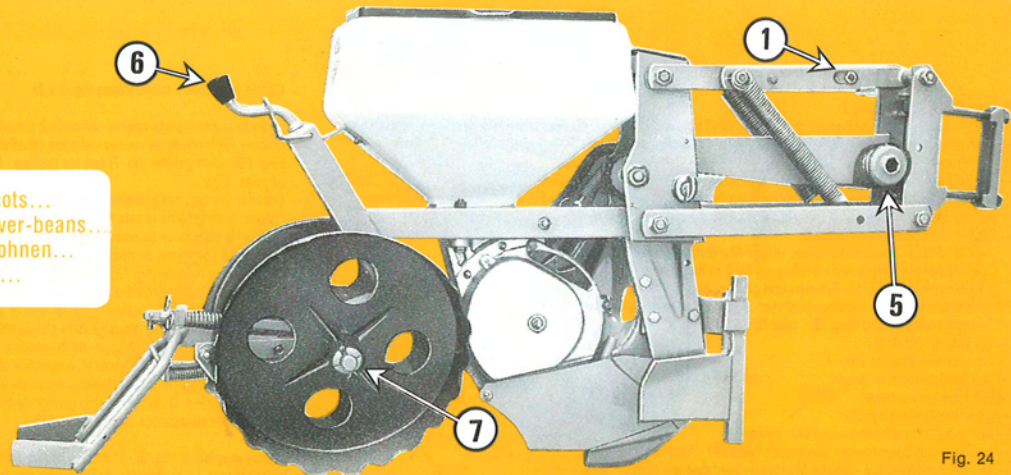

Fig. 24
VERSION de base A type MAÏS (fig. 24)
BASIC VERSION « A » : CORN-MODEL (fig. 24)
- on the corn version (fig. 24 - 27 - 28) this pin remains in position (normally articulated parallelogram)
- fitted diagonally as on fig. 24, they stabilize the metering units in both directions.
Grundausrüstung A Typ MAIS (Abb. 24)